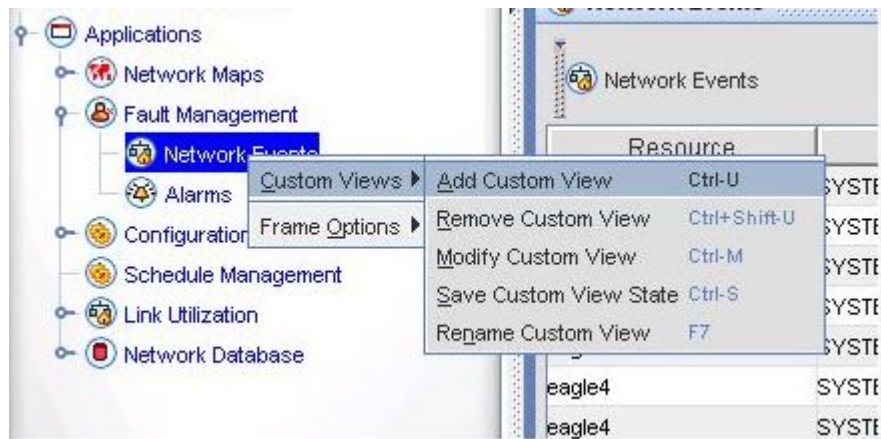

Figure 118: Add Custom View By Using Left Navigation Pane
- Right-click on the node (Network Events or Alarms) in the left navigation pane, and choose **Custom Views > Add Custom View** as shown in Figure 118: Add Custom View By Using Left Navigation Pane.